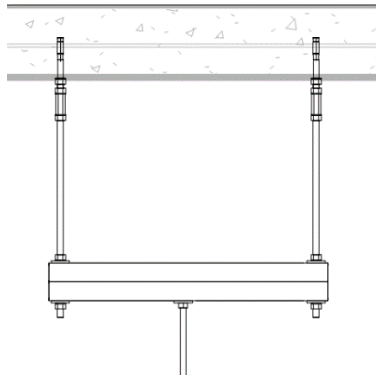

Figure 249: *A Trapeze Created to Avoid an Above Ceiling Conflict*
- If mechanical, electrical or plumbing equipment cannot be avoided, a "bridge" or "trapeze" (Figure 249) may be necessary. Refer to the strut channel manufacturer's specifications to determine the type and size of strut channel required to meet load capacity and span conditions.